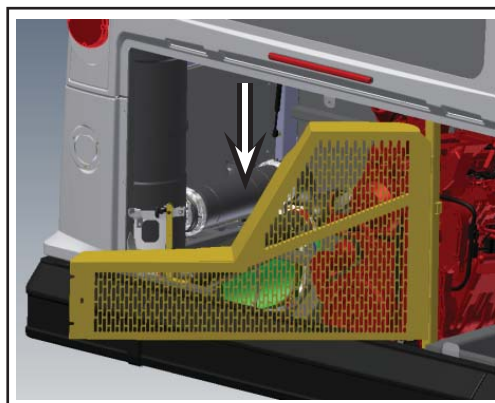

Figure 5 - Installation of Belt Guard
- 1.5. Install the new belt guard on the hinge post. See Figure 5.